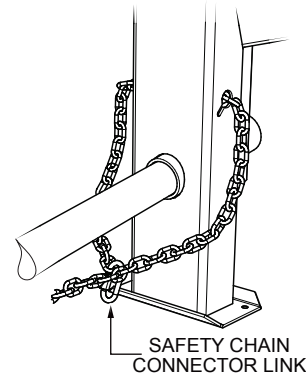

Figure 5. Cross Safety Chain
4. Loop (cross) the safety chain and place it under the tow bar. Secure the loop with the safety chain connector link. See Figure 5.